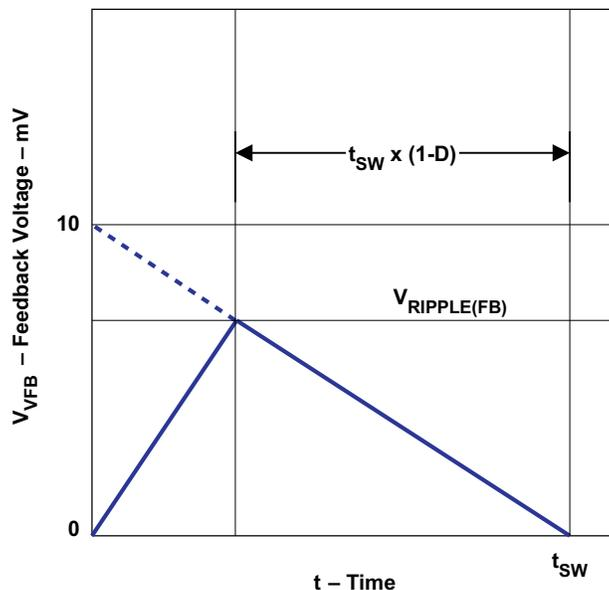

Figure 15. Ripple Voltage Down Slope
- the output ripple down slope rate is 10 mV/ t_{SW} in terms of VFB terminal voltage as shown in Figure 15
- (8)